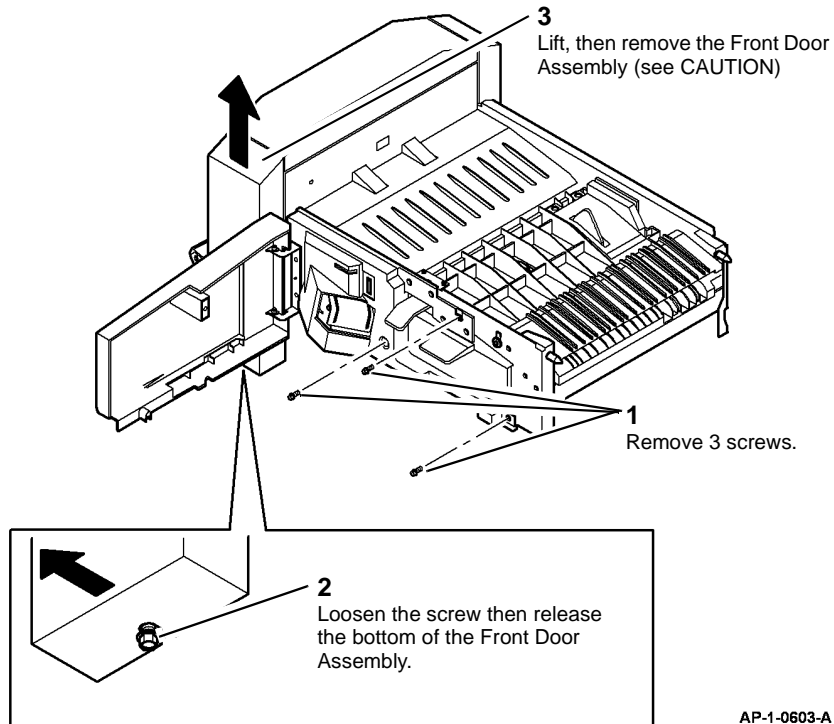

Figure 1 Removing the Front Door Assembly
4. Remove the Front Door Assembly (Figure 1).